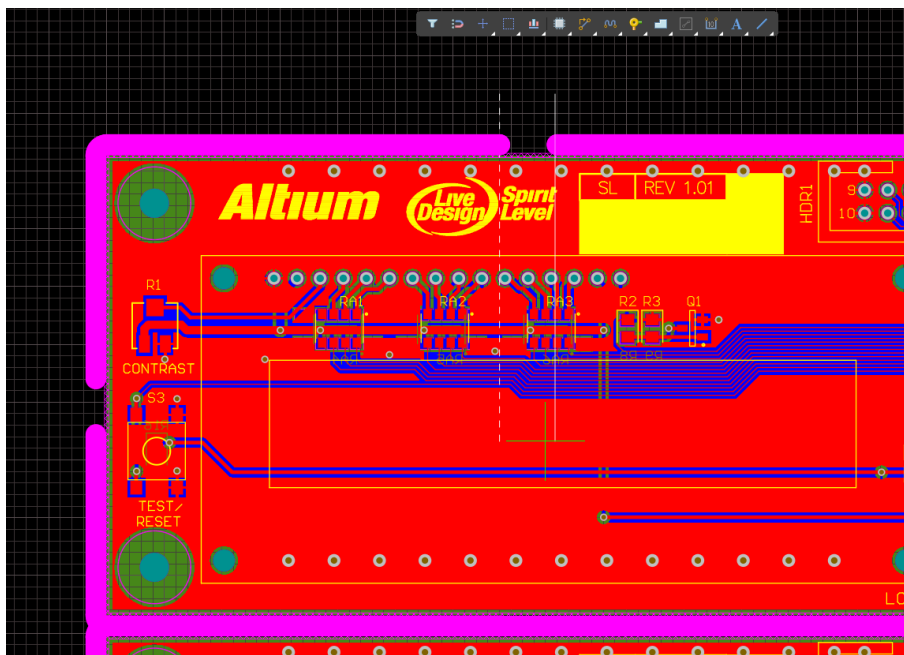

Figure 14. Position of the Slice Tracks cursor for first vertical cut
- While still in the **Slice Tracks** command, position the crosshair cursor near the top-left corner of the PCB, as shown in Figure 14. If you've exited the command, you can find it in the **Edit** menu.